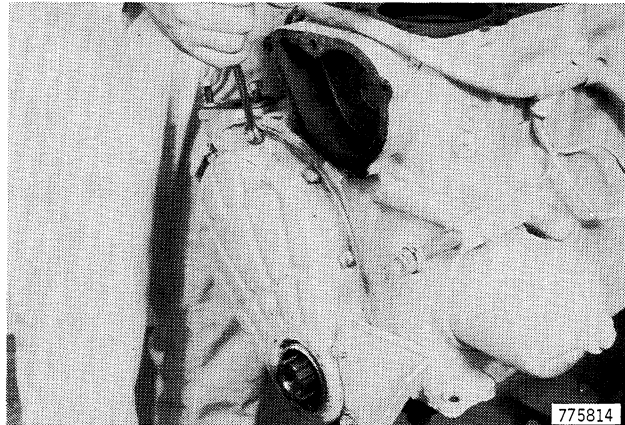

Figure 68
3. Remove the cap screws from the camshaft cover, Figure 68.